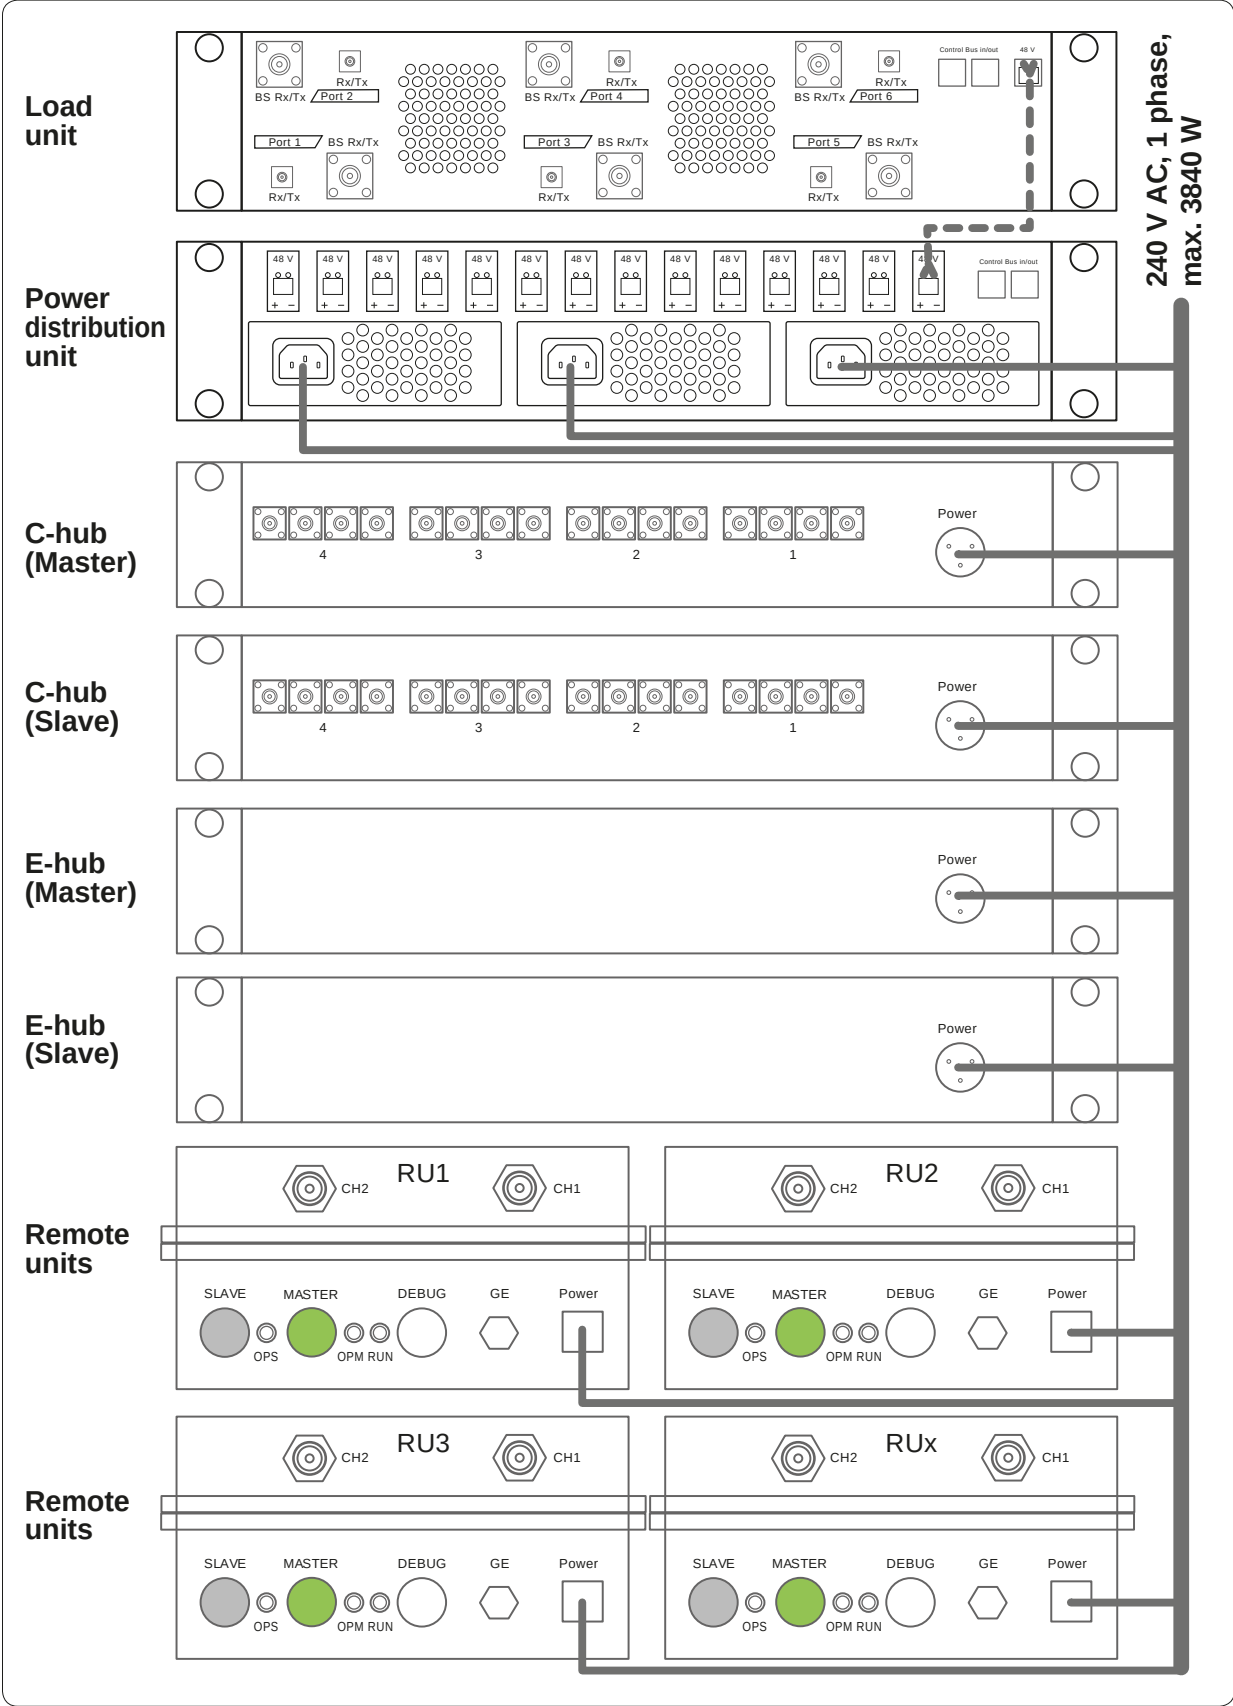

Fig. 37: Power supply cable layout
► Install the required power supply connections. Fig. 37 gives an overview.